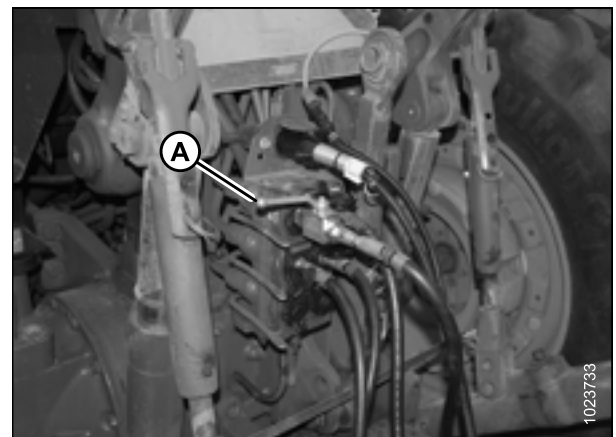
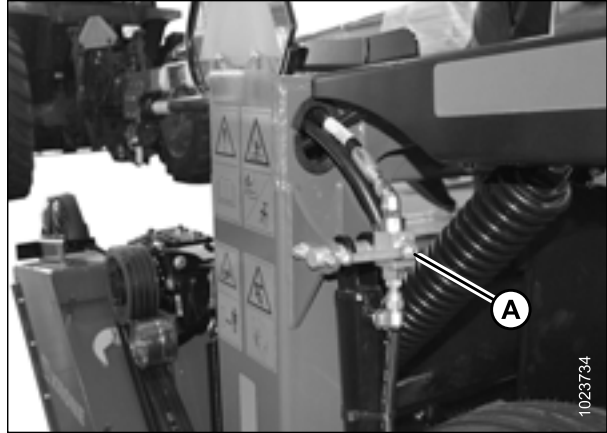

Figure 3.84: Steering Lock-Out Valve
Figure 3.85: Lift Cylinder Lock-Out Valve
10. Close the steering lock-out valve and the two lift cylinder lock-out valves by turning the handles to the closed position. Refer to Figure 3.84, page 69 and Figure 3.85, page 70.